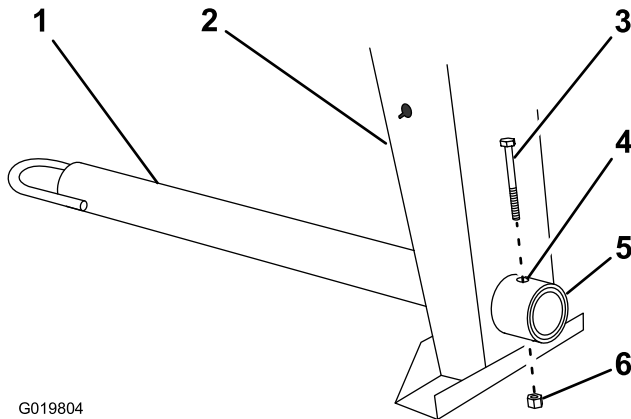

Figure 5
1. Remove the bolt and nut from the tow pole (Figure 5).
2. Slide the tow pole forward and align the hole in the pole with the hole in the frame fitting (Figure 5).
3. Insert the bolt through the holes in the fitting and the pole (Figure 5).
4. Thread the nut onto the bolt and tighten them until they are tight against the frame fitting (Figure 5).